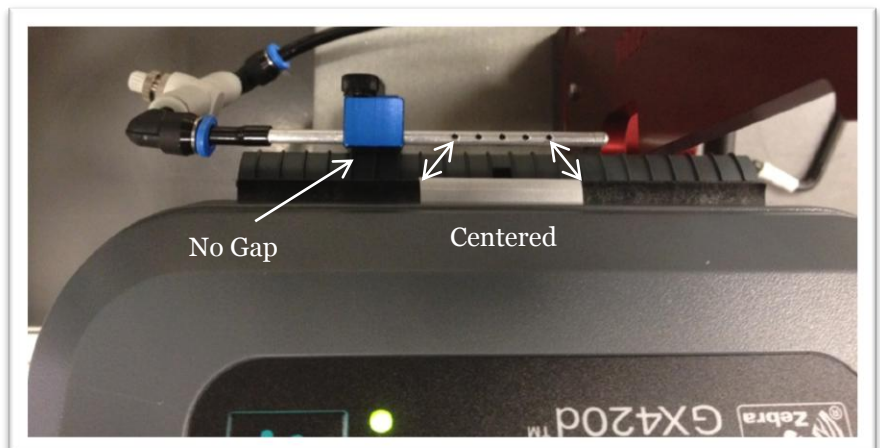

Figure 5.4.21 Blower Bar Position
- Adjust the blower bar so that the holes are centered on the label stock of the printer (Figure 5.4.21). The holes should be facing upwards or angled back slightly towards the printer.